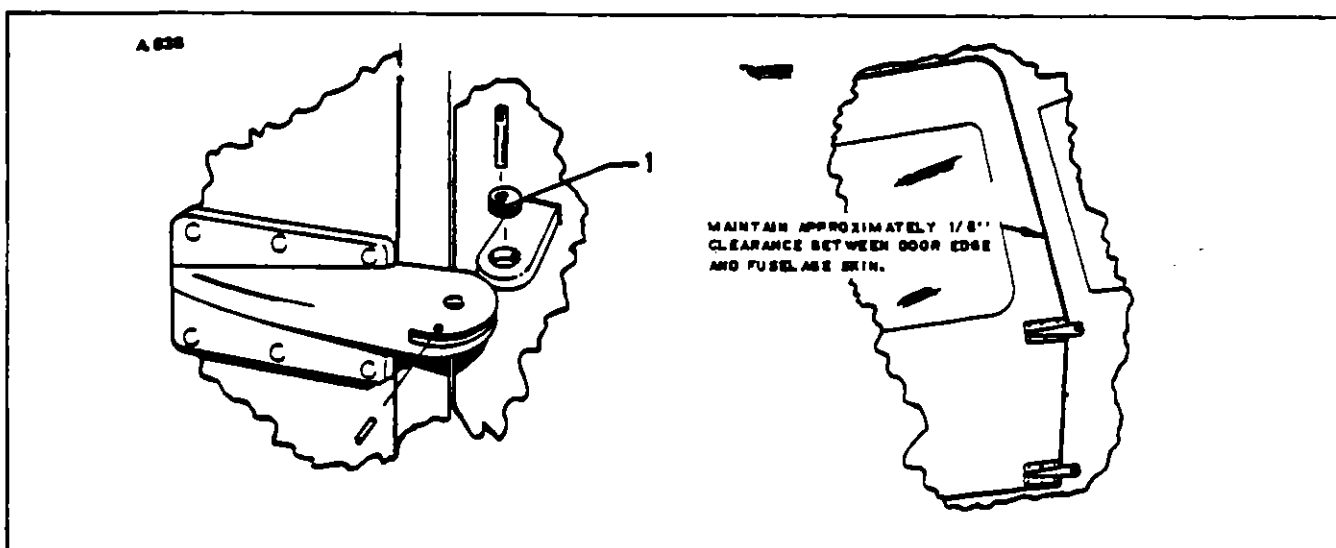

FIGURE 4-5. DOOR INSTALLATION
- b Swing the door closed and check for alignment of the main door latch and the auxiliary latch with their respective latch striker plate. If the door fails to align, remove it and reposition the two serrated door hinge bushings (See l, Figure 4-5.) Repeat the above procedure until the door is properly aligned.
- c Once the door is properly aligned with the door frame, the procedure of trimming and fitting the door can be started. Using a small pair of metal shears and a file, trim the door edges until there is an approximate clearance of 1/8 inch between the fuselage skin edge and the door edge. (See Figure 4-5)